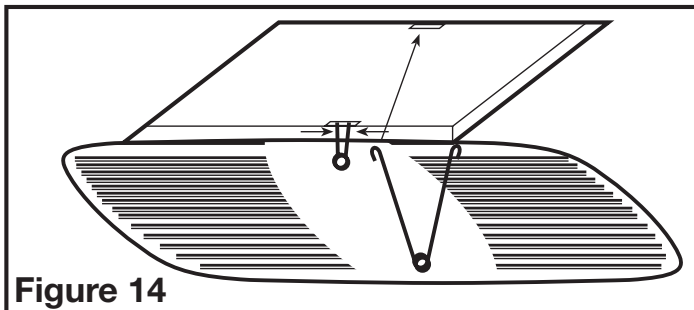

**Figure 12**
- 3b. **AKLS6 MODELS:** Plug the fan's 5 pin quick connect motor cord into the included harness. Plug the 3 pin quick connect harness cord into the receptacle located on top of the wire compartment. These cords will only fit one way into the receptacles (Figure 12).